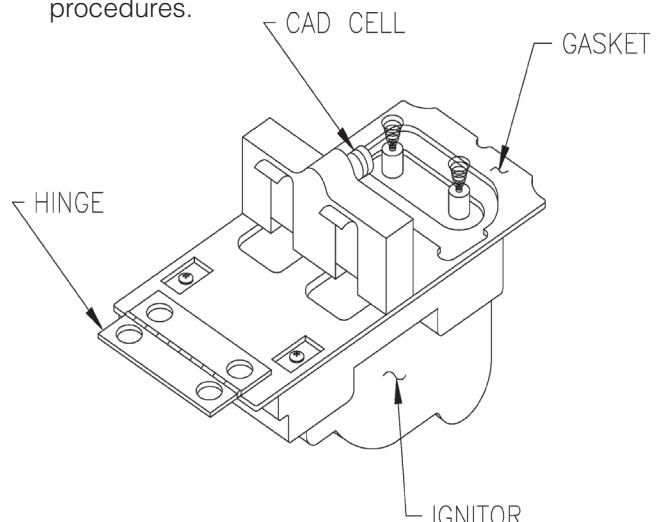

Figure 34: Cad Cell Location
- If safety switch shuts down burner and resistance is above 1600 OHMS, open line switch to boiler. Access cad cell under ignitor, clean face of cad cell and see that cell is securely in socket, see Figure 34. Check gasket around perimeter of ignitor lid for proper seal. If gasket is missing or damaged, replace gasket. Room light can effect cad cell resistance. Reset safety switch.